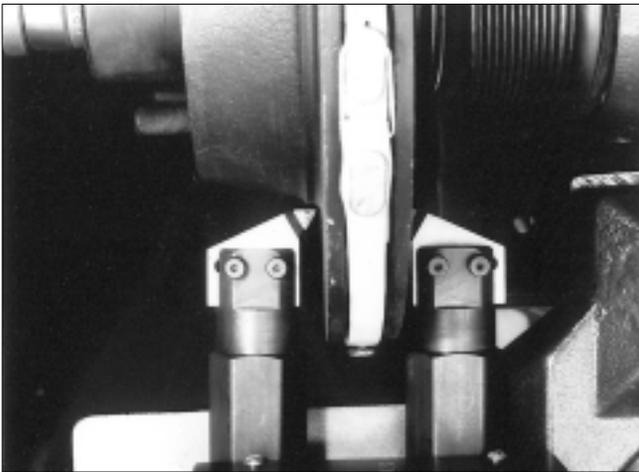

Figure 3
5. Position the left tool bar approximately parallel to the outer brake surface so the tool bit is 1/8" away from the brake surface and reaches to the groove at the base of the brake surface. Tighten the T-bolt nut. Position the right tool bar approximately parallel to the inner brake surface so its tool bit is directly across from the left tool bar tool bit and about 1/8" from the inner brake surface, Fig. 3. Tighten the T-bolt nut.